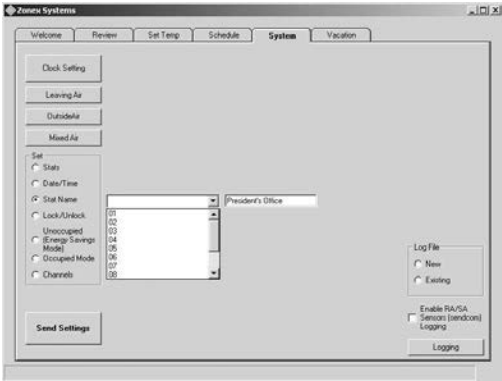

Fig. 13
1. Click on the **Stat Name** radio button (see Fig. 13), and enter individual thermostat names, **RLYCOM** or **SENDCOM** designations. Do not exceed 20 characters and spaces on each entry.